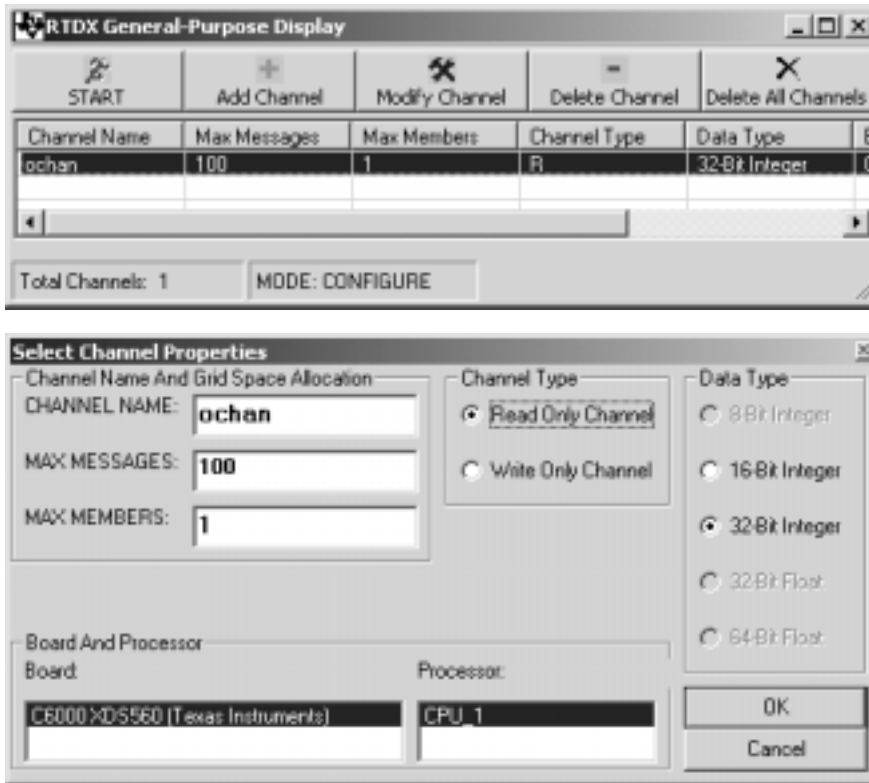
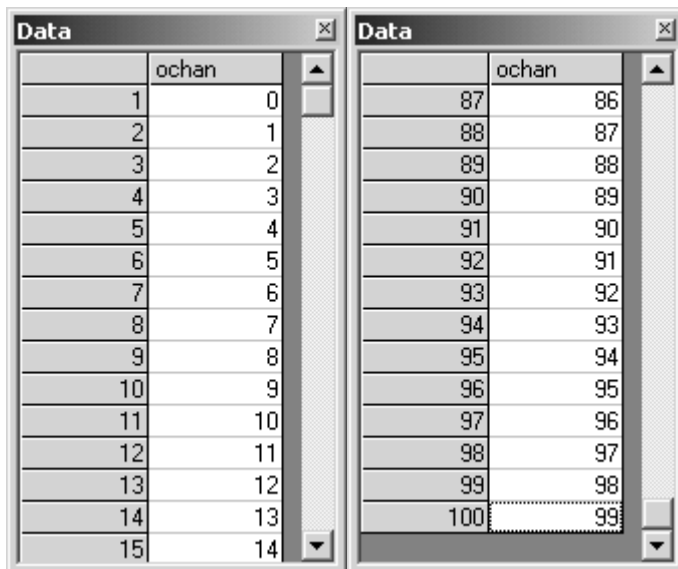

Figure 2. t2h General-Purpose Display - Setup
Figure 3. t2h General-Purpose Display - Test Results
6. Run. The CIO window shows the test progress by printing *Value N was sent to the host*. To verify the host received the data you may run the gpdprog (General Purpose Display) that is located at c:\ti\examples\hostapps\rtdx\gpdprog\new\gpdprog.exe. Click on Add Channel to bring up the Select Channel Properties dialog box. Set CHANNEL NAME to ochan, MAX MESSAGES to 100, MAX MEMBERS to 1, Channel Type to Read Only Channel, Data Type to 32-bit Integer; and then select OK. A data window pops up that fills in as the test runs. If you do not see an incrementing pattern of integers from 0 to 99 the test has failed. See Figure 2 and Figure 3.